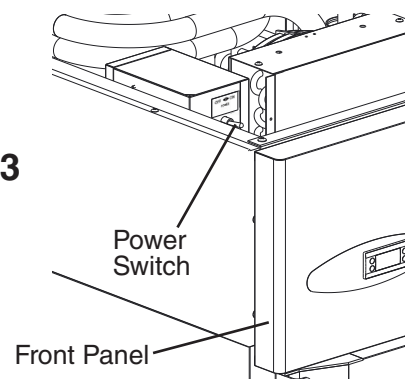

Fig. 3
- 1) Reach over the front panel to access the power switch—located on the front of the control box. See Fig. 3. Make sure the power switch is in the "OFF" position.